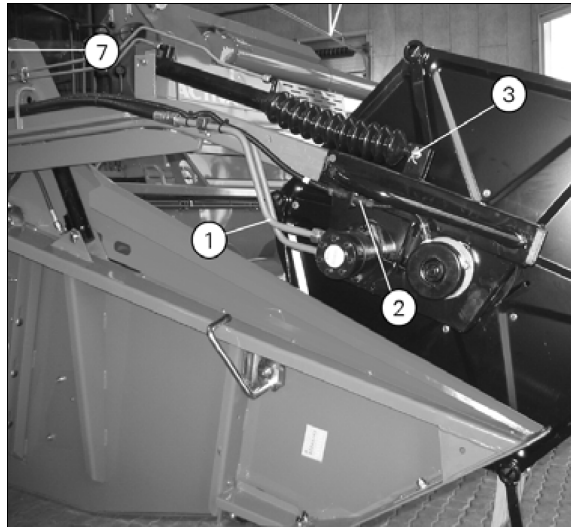

Fig. 1.
7. Disconnect the hydraulic cylinder at the cotter bolt (fig. 1).